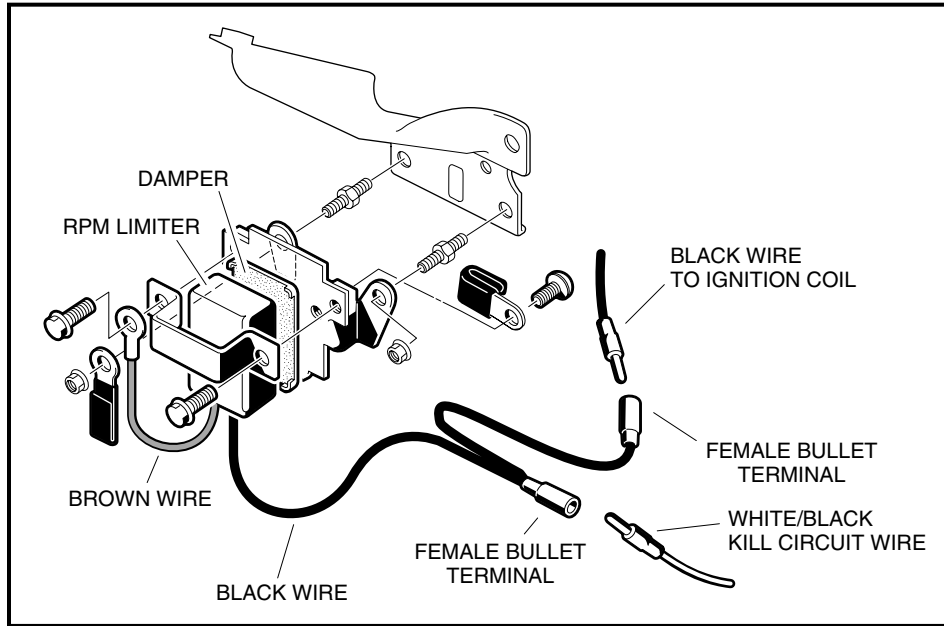

Figure 12a-25 RPM Limiter Assembly
5. Remove the flange head bolts from the RPM limiter band and remove the RPM limiter and damper (**Figure 12a-25, Page 12a-23**).
2. Place the RPM limiter with damper on the front of the RPM limiter mounting bracket (**Figure 12a-25, Page 12a-23**).